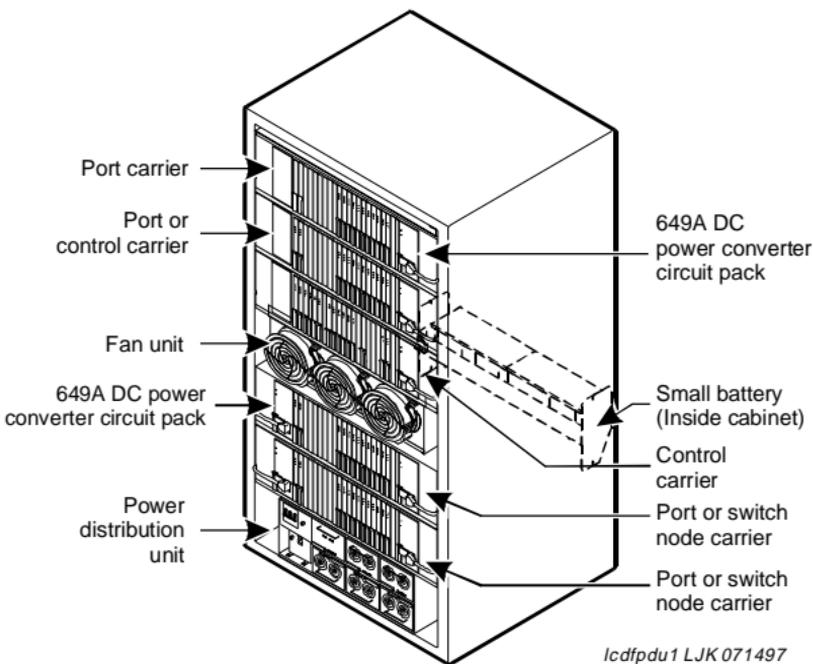

Figure 29. Power Distribution in Multicarrier Cabinets
Figure 29 shows the power distribution in some multicarrier cabinets with short term battery holdover (small battery). In Release 6r systems, the power distribution cables are on the right hand side of the cabinet only. This is because the 649A DC power converter circuit pack replaces 2 power converters at either end of each carrier. Switch node (SN) carriers require two 649As and 2 cables.